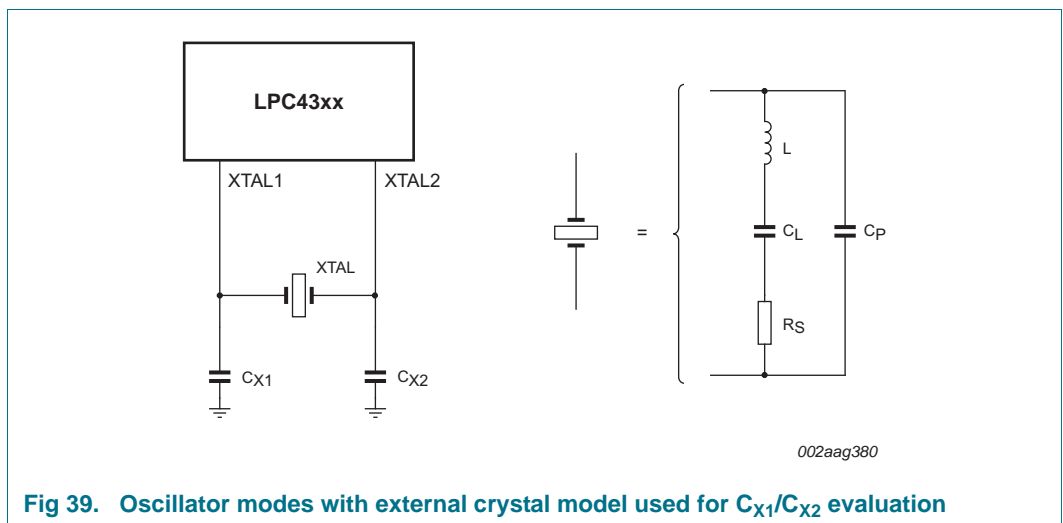

Fig 39. Oscillator modes with external crystal model used for C_{X1}/C_{X2} evaluation
- External components and models used in oscillation mode are shown in Figure 39, and in Table 37 and Table 38. Since the feedback resistance is integrated on chip, only a crystal and the capacitances C_{X1} and C_{X2} need to be connected externally in case of fundamental mode oscillation (L , C_L and R_s represent the fundamental frequency). Capacitance C_P in Figure 39 represents the parallel package capacitance and must not be larger than 7 pF. Parameters F_C , C_L , R_s and C_P are supplied by the crystal manufacturer.